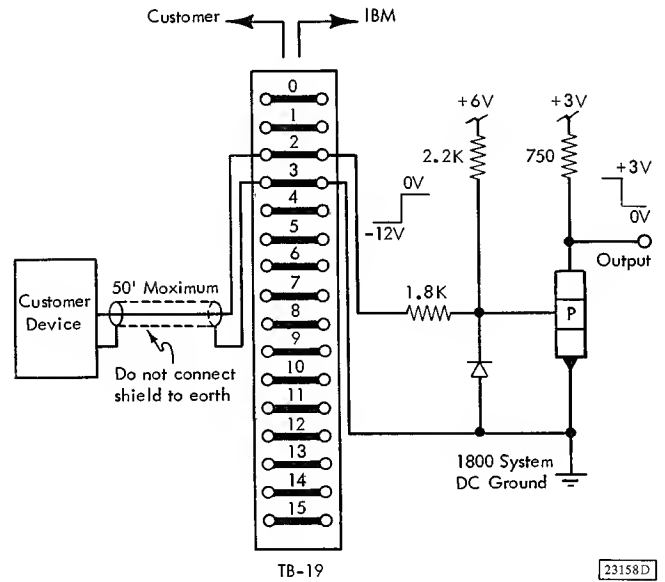

Figure 45. Analog Input "Sync" Signal, Terminal and Circuit Schematic (simplified)
6. Terminal and Circuit Description: Figure 45.